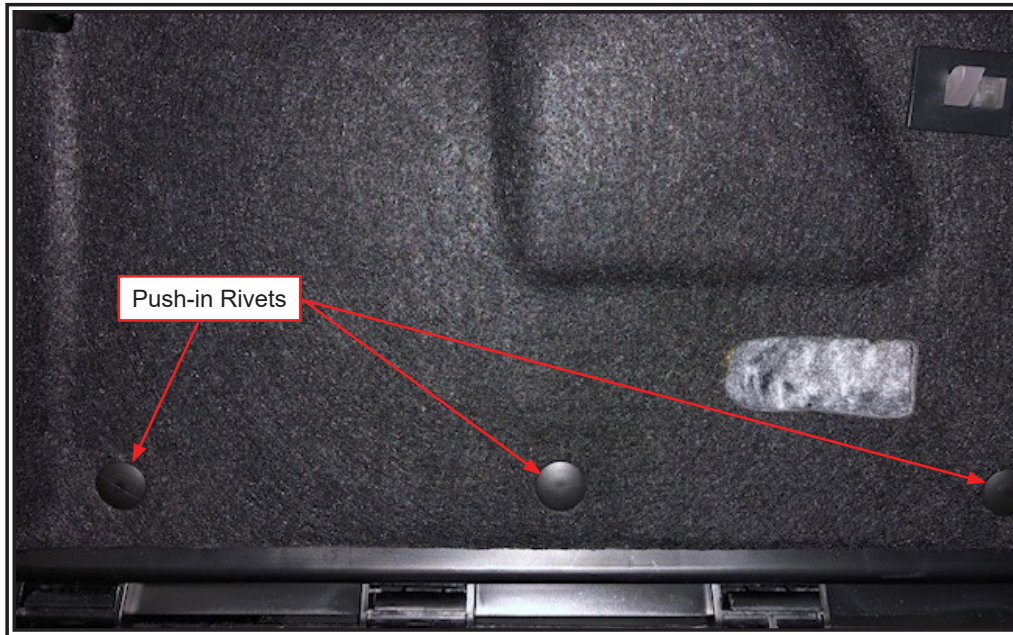

Figure 5
Step 1. Located below the glove box, remove push in rivets to remove panel shown in FIGURE 5.